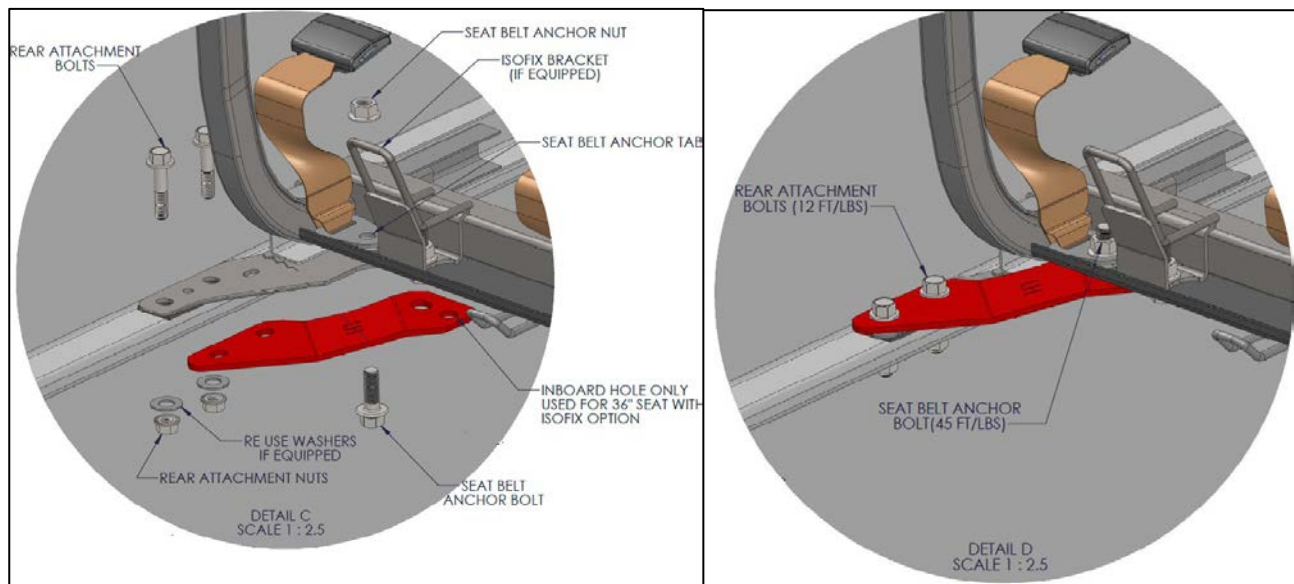

Figure 12: Bracket Installation – Thin Back – 26 Inch, 36 Inch, 38 Inch, and 39 Inch Seats (Driver's Side Shown)
3. Place the new bracket over the top of the original bracket (TBB 219033 for driver's side or TBB 219032 TRL for curb side). See **Figure 12**.